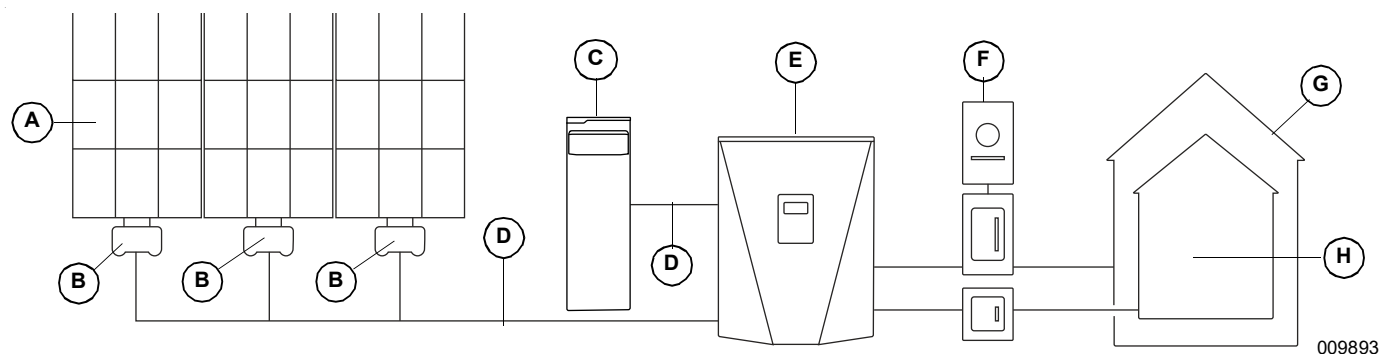

Figure 2-5. Generac PWRcell System Example
In Figure 2-5, a REbus-compatible PWRcell Inverter (E) is directly connected to PV Links (B) and PWRcell Battery (C) on REbus (D), the DC nanogrid/lines (D). To the right of the inverter are AC lines: 240VAC or 208VAC for grid and home loads (G), and protected loads (H). Load support varies by model and number of battery modules attached. Refer to Specifications for more information.